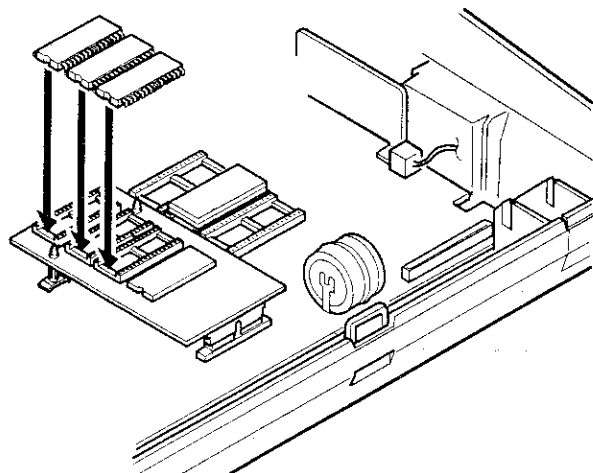

Fig. 5
2) Install the ER-02RA on the ER-01MB above the main PWB. Mount the ER-02RA in the RAM sockets as indicated below. (Fig. 5)